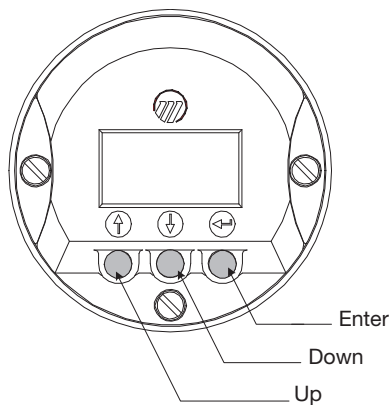

Figure 2
3. Use the $\uparrow$ and $\downarrow$ keys to move from one step of the configuration program to the next step, see Figure 2.